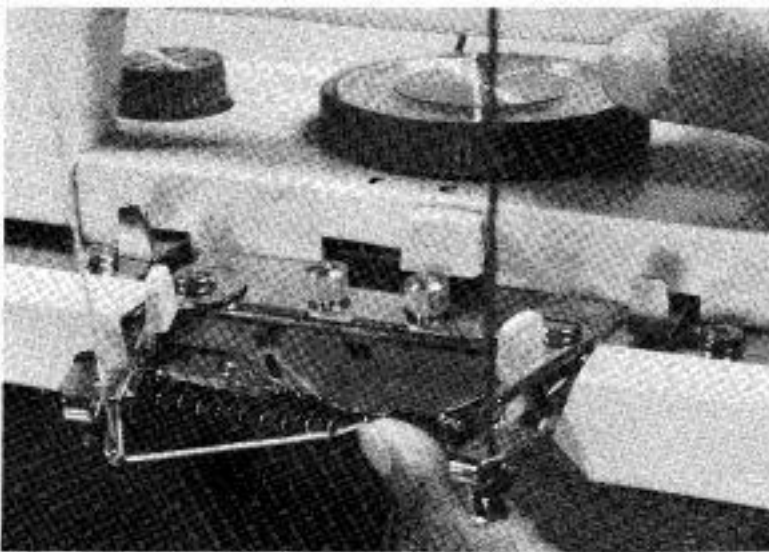

Fig. 143
3. Push in the last needle for the 1st colour (needle 'A') with your finger. (Fig. 143)